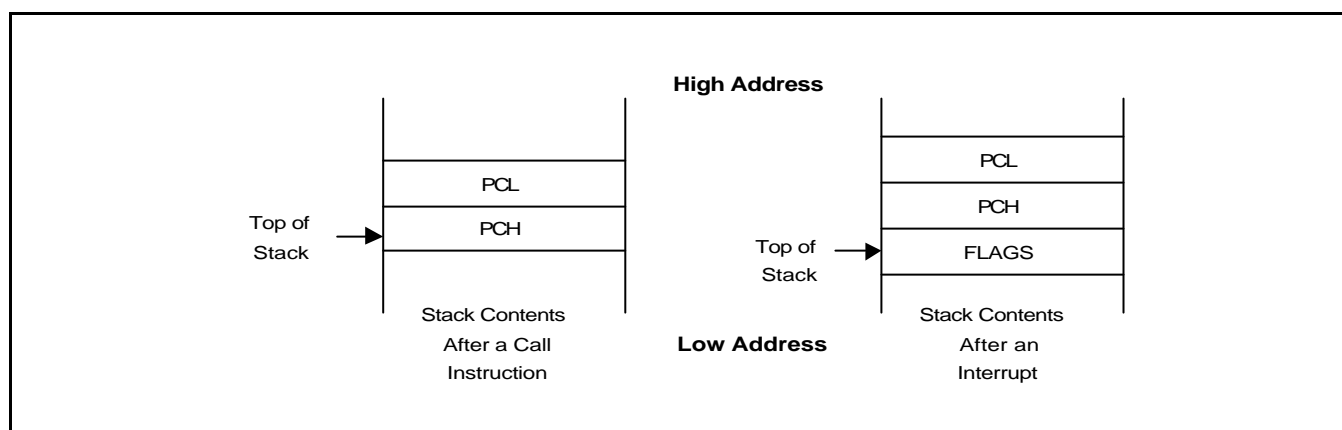

Figure 2-4. Stack Operations
Return addresses for procedure calls and interrupts and data are stored on the stack. The contents of the PC are saved to stack by a CALL instruction and restored by the RET instruction. When an interrupt occurs, the contents of the PC and the FLAGS register are pushed to the stack. The IRET instruction then pops these values back to their original locations. The stack address is always decremented before a push operation and incremented after a pop operation. The stack pointer (SP) always points to the stack frame stored on the top of the stack, as shown in Figure 2-4.